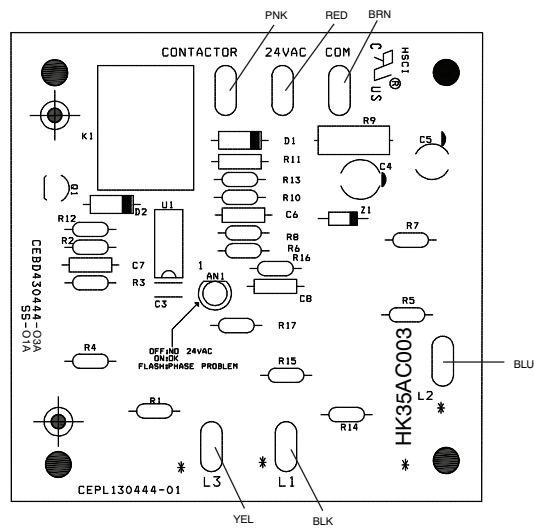

Fig. 3 - Phase Monitor Module Detail (208/230V and 460V)
5. a. **For 208/230-460V** - Route the wiring harness along the top of the control box connecting the pink wire to the “CONTACTOR” spade connector, the red wire to the “24VAC” spade, and the brown wire to the “COM” spade of the phase monitor module. (See Fig. 3.)